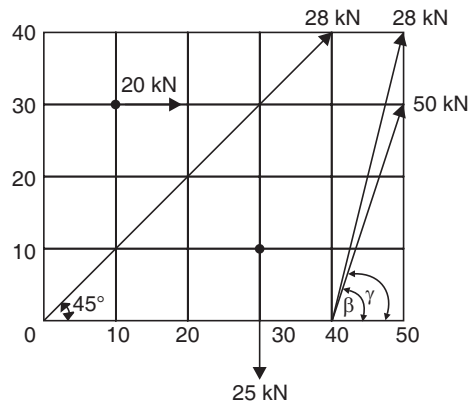

Fig. 2.60
**Example 2.36.** Find the resultant of the system of the forces shown in Fig. 2.60.